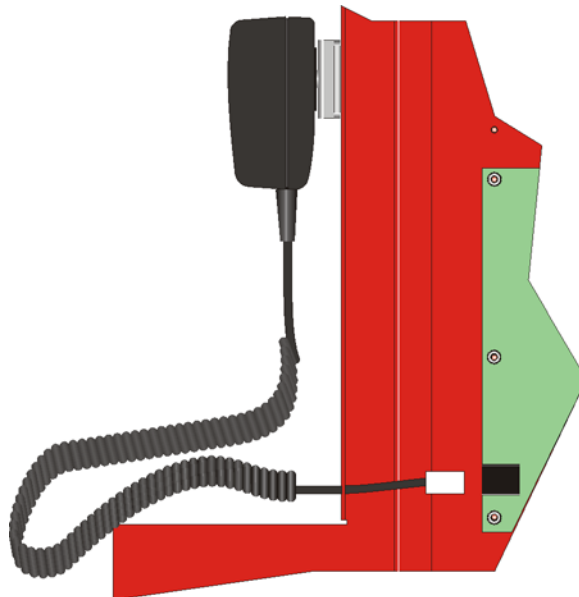

Figure 3-10 Microphone Cord Inserted Through Dead Front Panel Hole
2. Insert Microphone cord through hole at the bottom of the dead front panel. See Figure 3-10.